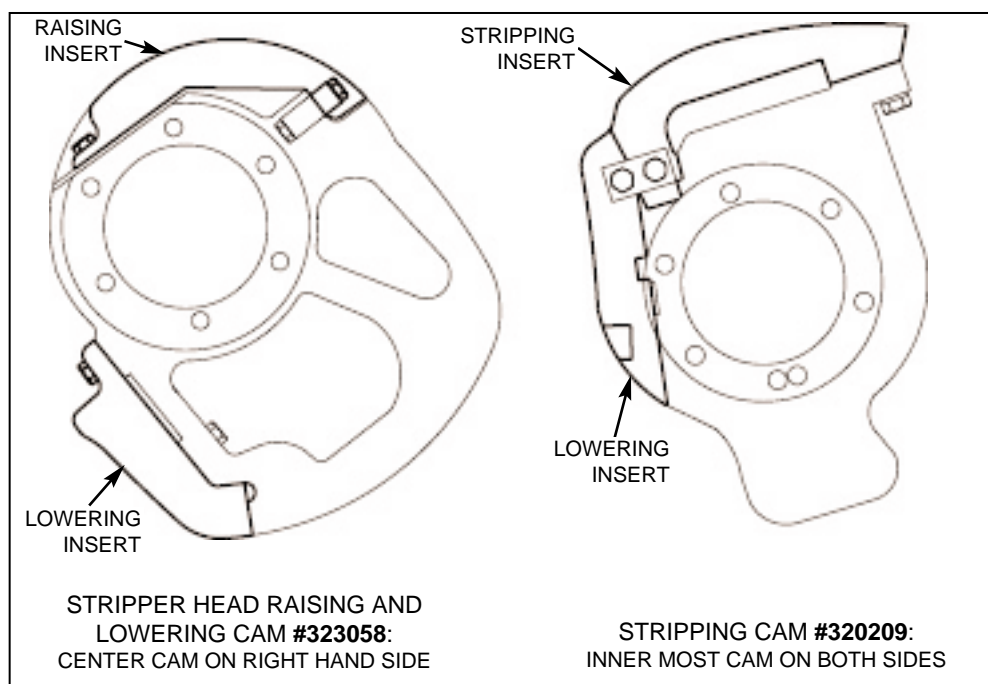

Figure 4.12 CAM INSERTS.
4.1.5 Install stripping cam insert **# 320209** on each side of the machine and one stripper head raising cam insert **# 323058** on the right side of the machine (see figure 4.12).